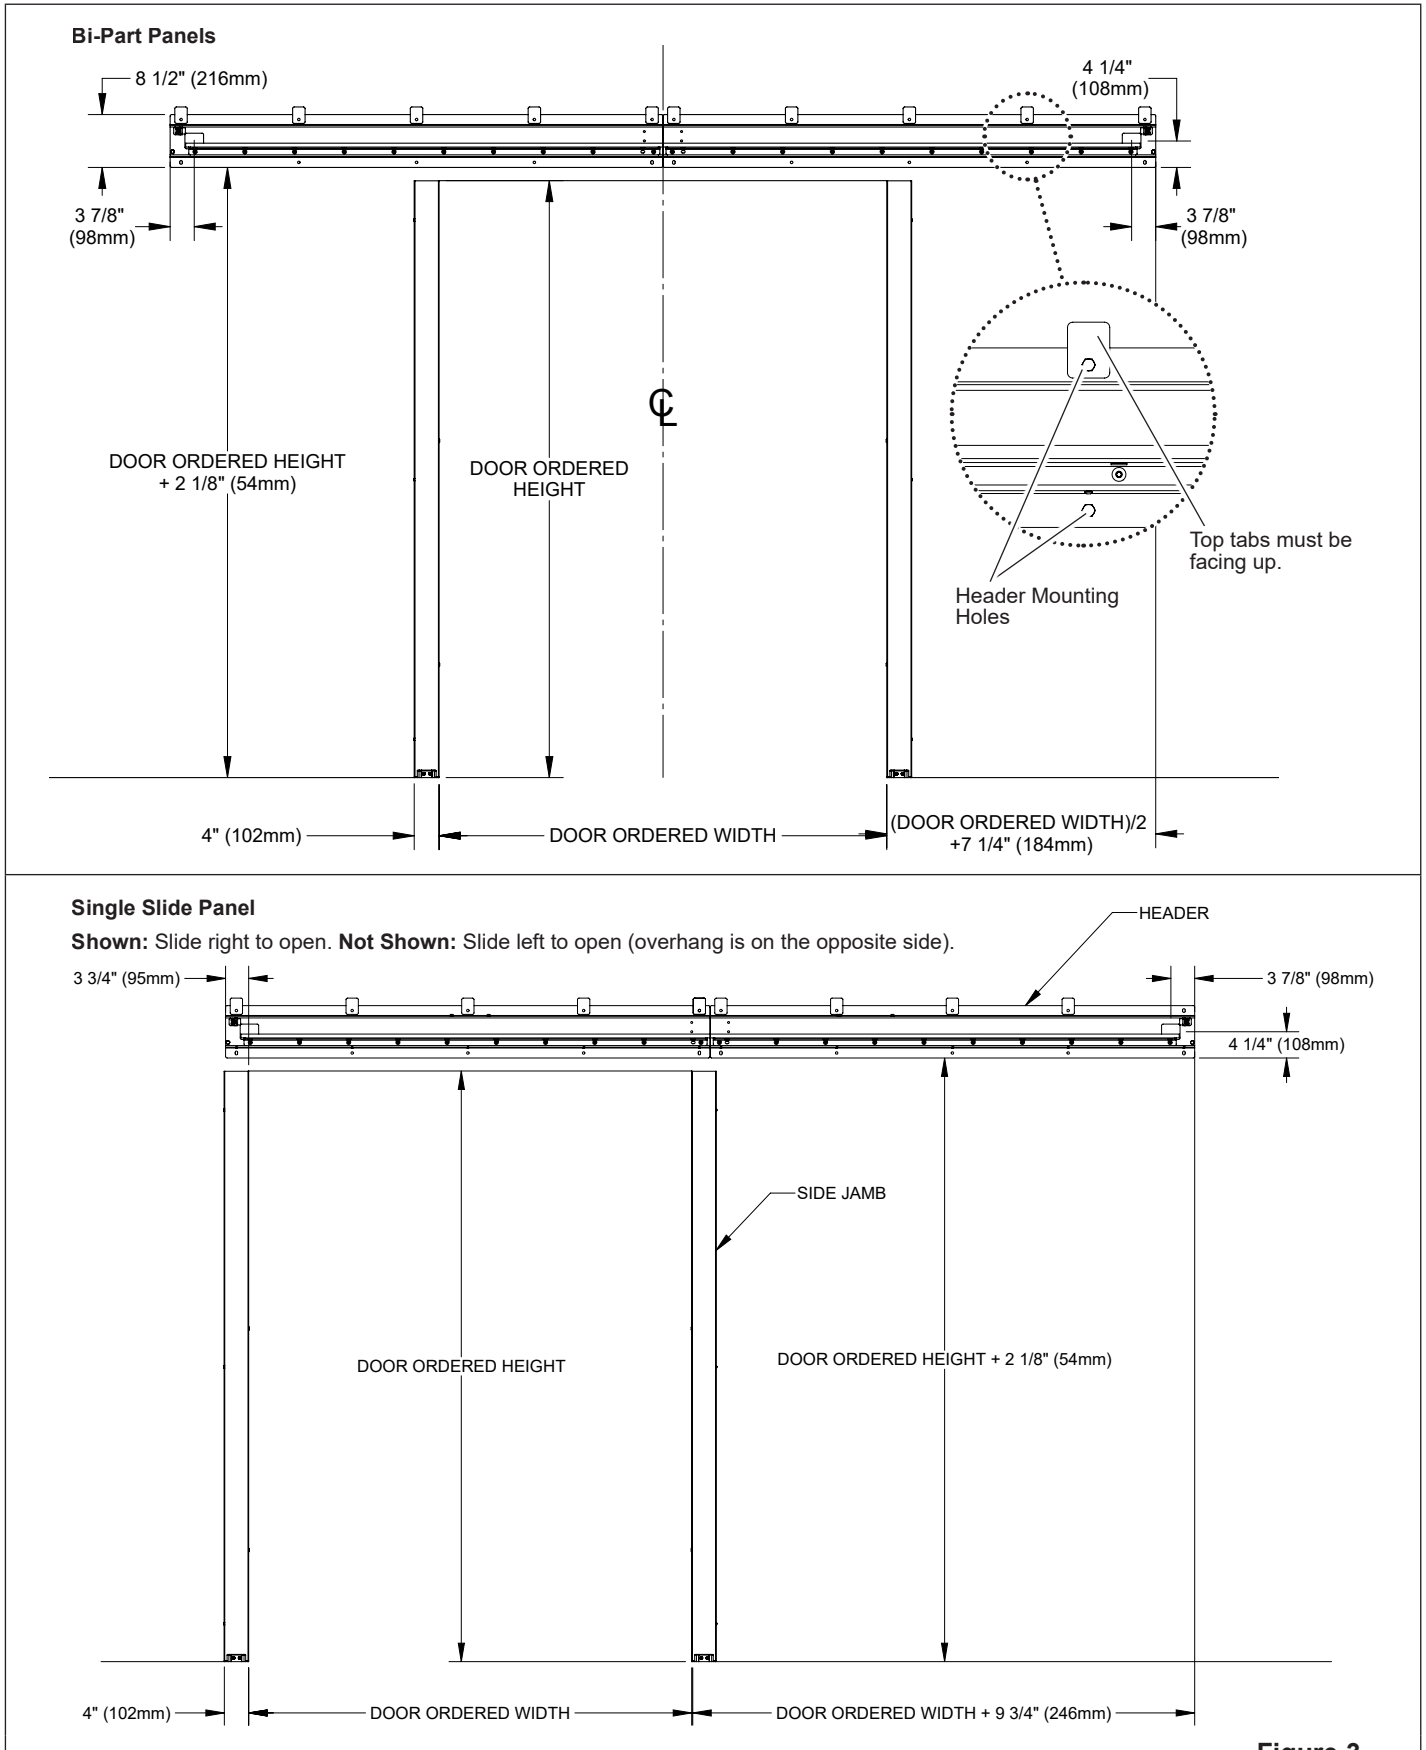

Figure 3
- b. Install the retention block bracket (A) (inside side jambs). Use (4) 1/4 in fasteners. Photoeyes must face towards the door opening.
- c. Install the side jamb cover (B).
3. Determine placement of header. Refer to **"Figure 3" on page 8**.
- a. For multi-piece headers, separate the header into pieces. Remove 3 button head screws (D) from each joiner plate (E).
- c. Top tabs (C) must be placed facing up when installing top mounting fasteners. Secure with fasteners in all mounting holes (**"Figure 3" on page 8**). Use 3/8 in mounting fasteners (supplied by others/10 per channel).